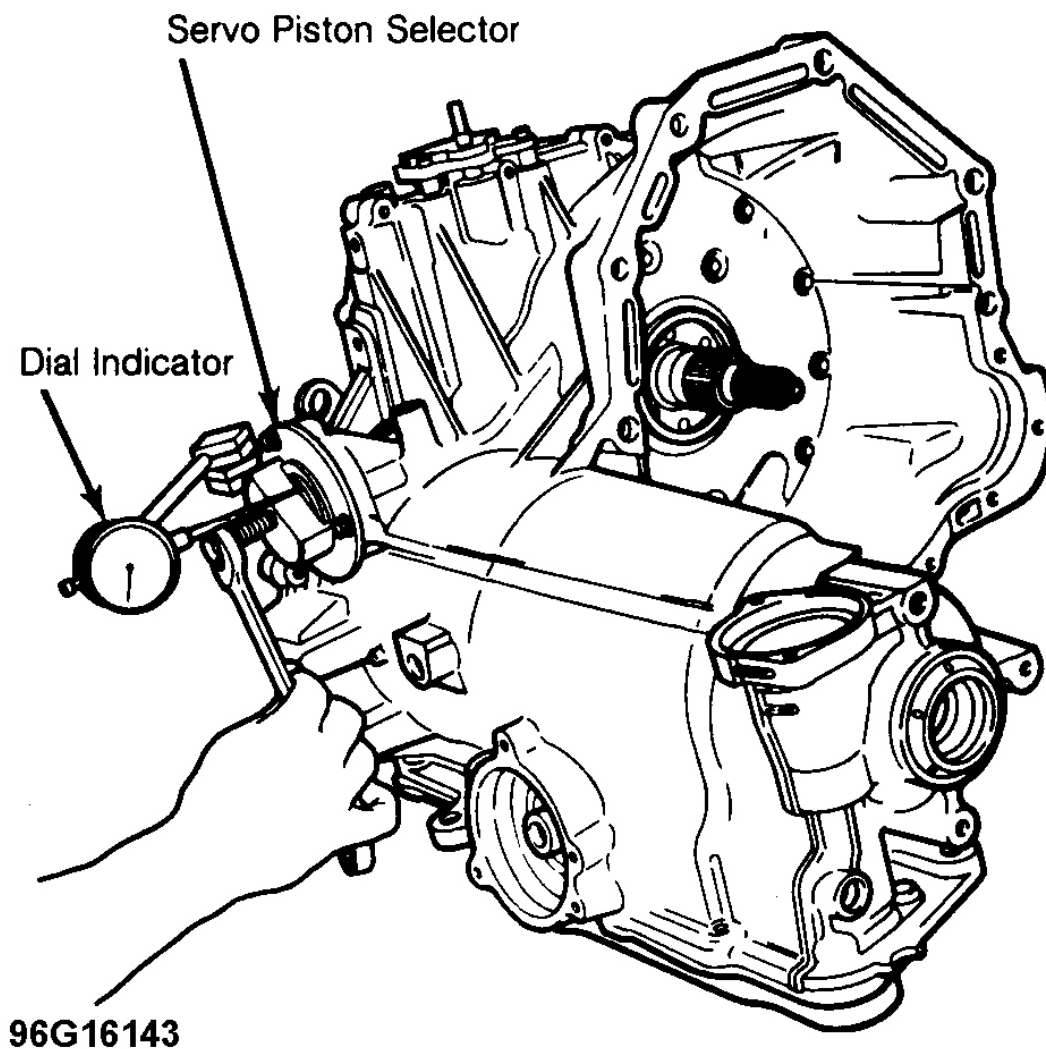

Fig. 36: Overdrive Servo Check
1. Install spring from Overdrive Servo Rod Kit (T86P-70023-B), in case. Install servo piston and rod in case. Install servo piston gauge from kit and secure in case using servo cover bolts. Tighten bolts to 90 INCH lbs. (10 N.m). Tighten gauge screw to 10 INCH lbs. (1.13 N.m). See **Fig. 36**.